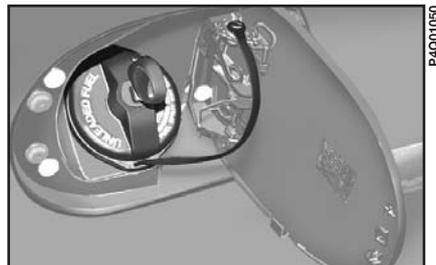

fig. 91
- 2) holding the cap still, turn the key anticlockwise **fig. 91**;